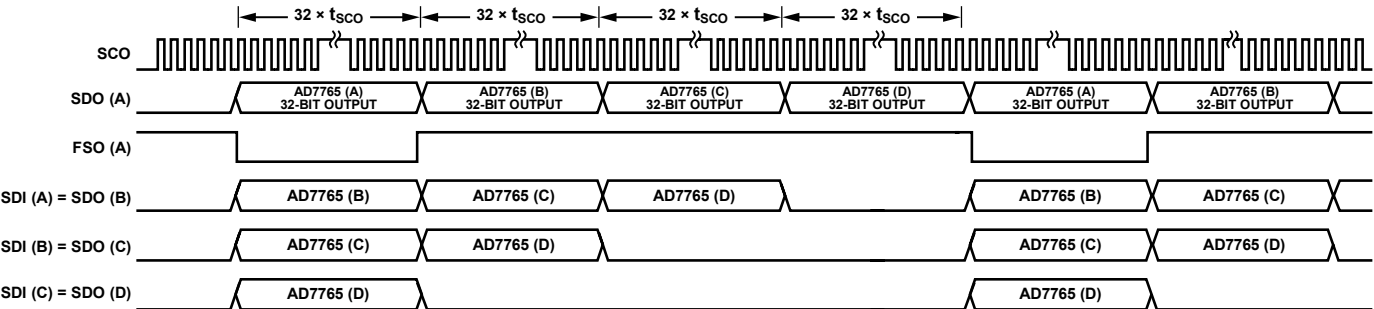

Figure 35. Daisy-Chain Mode, Data Read Timing Diagram (for Daisy-Chain Configuration Shown in Figure 34)
After applying a SYNC pulse to all devices, the filter settling time must pass before the FILTER-SETTLE bit is asserted indicating valid conversion data at the output of the chain of devices. As shown in Figure 35, the first conversion result is output from the device labeled AD7765 (A). This 32-bit conversion result is then followed by the conversion results